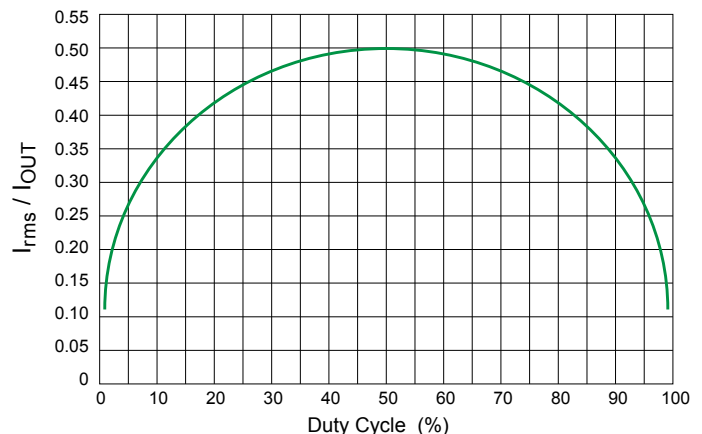

Figure 13: Input Capacitor Ripple versus Duty Cycle
Figure 13 shows the normalized input capacitor rms current versus duty cycle. To use this graph, simply find the operational duty cycle (D) on the x-axis and determine the input/output current multiplier on the y-axis. For example, at a 20% duty cycle, the input/output current multiplier is 0.40. Therefore, if the regulator is delivering 3.0 A of steady-state load current, the input capacitor(s) must support  $0.40 \times 3.0$  A, or 1.2 Arms.